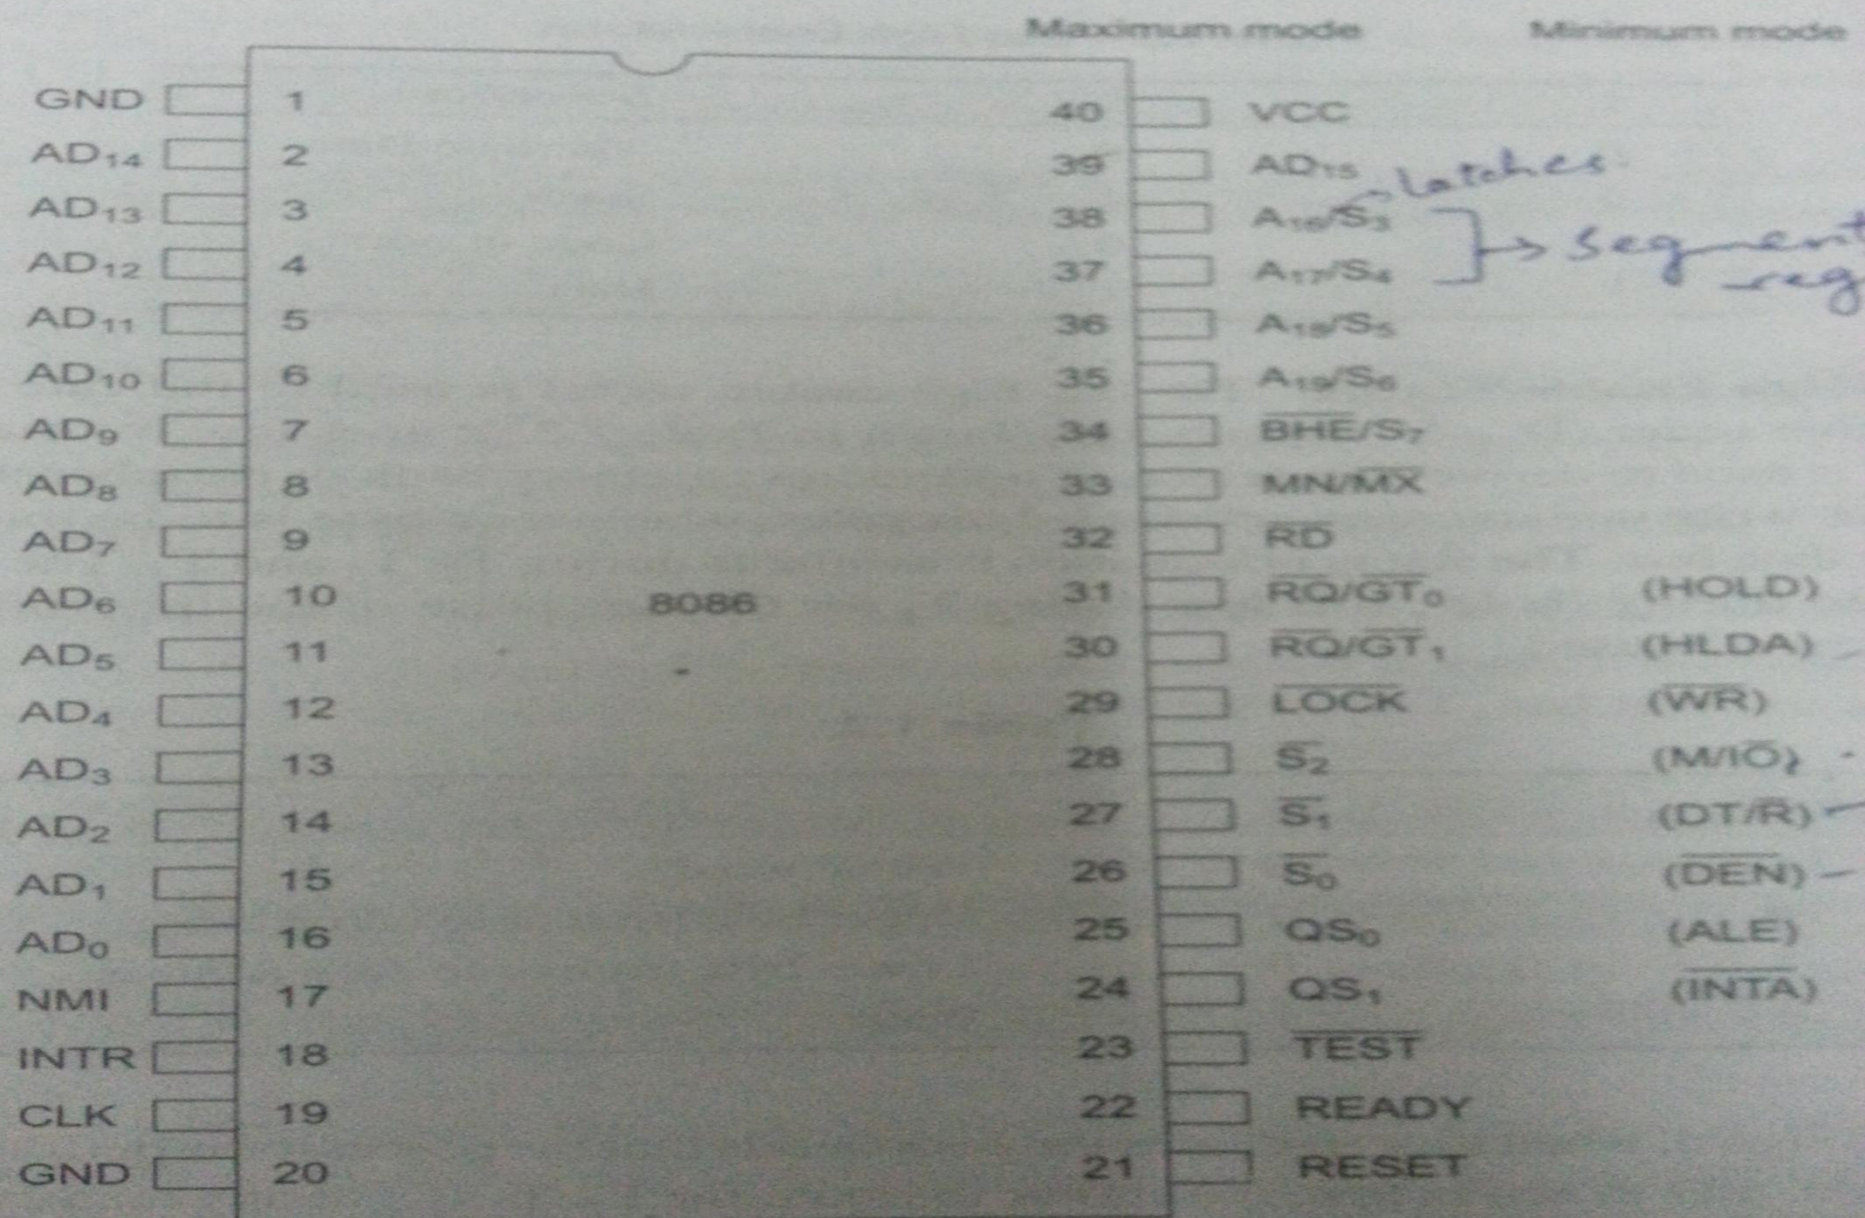

Fig. 1.5 Pin Configuration of 8086
- The pin configuration is shown in fig 1.5